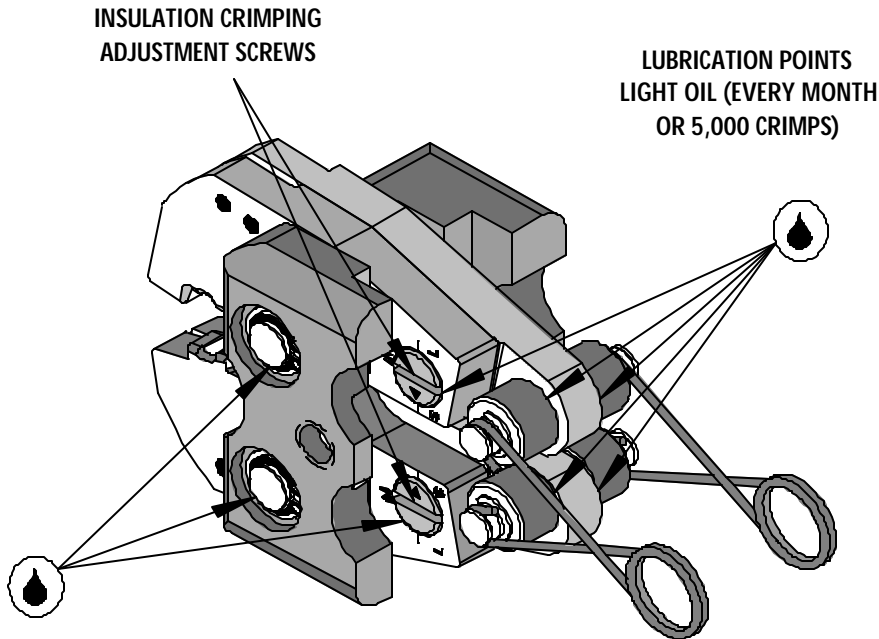

Figure 7
1. The crimp tool heads for insulated terminals and connectors feature an adjustable insulation support crimp to accommodate varying wire insulation diameters (See Figure 7) for old style crimp tool head.